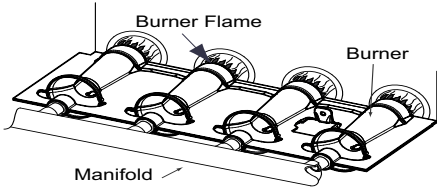

Fig. 63 – Burner Flame A11461
- i. When correct input is obtained, replace cap that conceals gas valve regulator adjustment screws. Main burner flame should be clear blue, almost transparent See Fig. 63.